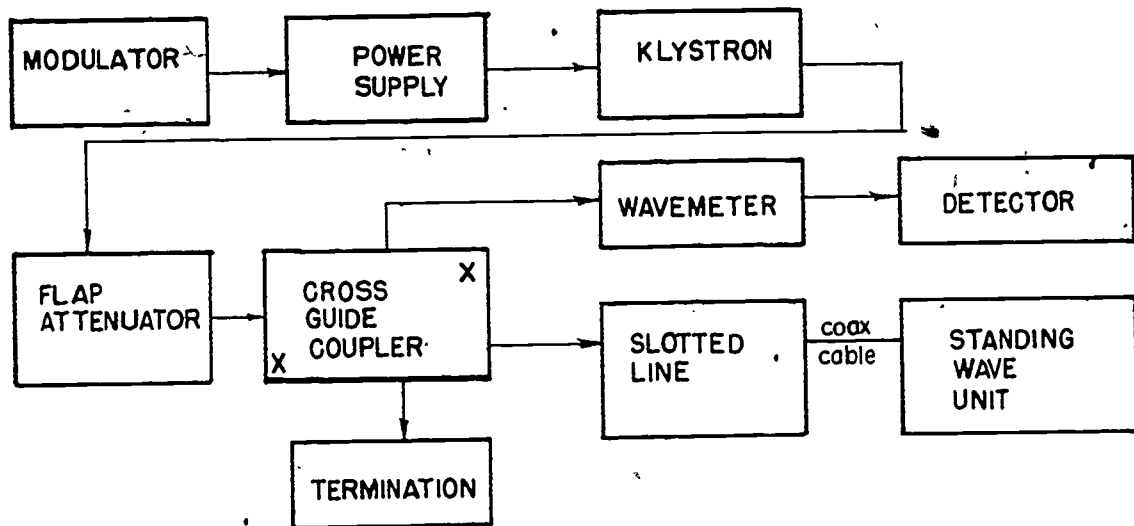

Fig. 1--Equipment Connections to Measure Frequency
1. Set up trainer as in Fig. 1. If you use a transmitter, it should be equipped with a resonant cavity wavemeter.
2. Connect a cable from the slotted line to the standing wave unit as shown in Fig. 1. (Disregard if using a transmitter.)